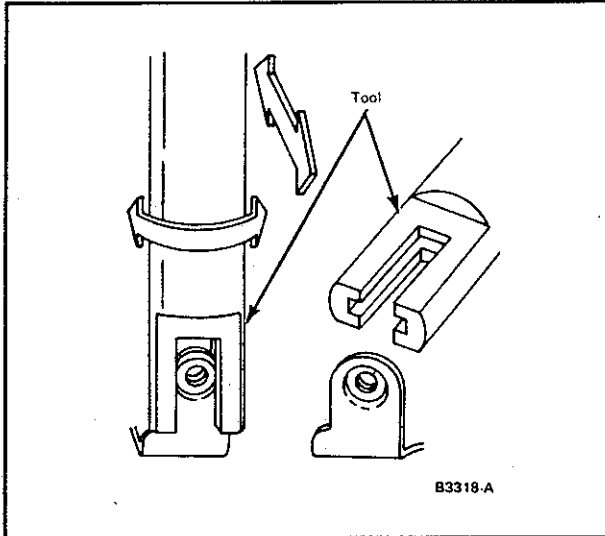

Figure 11 Using Alignment Tool
2. Using the tool shown (Figure 11) and exerting **very light pressure**, align the breaker point bracket. **Do not bend the breaker arm.**